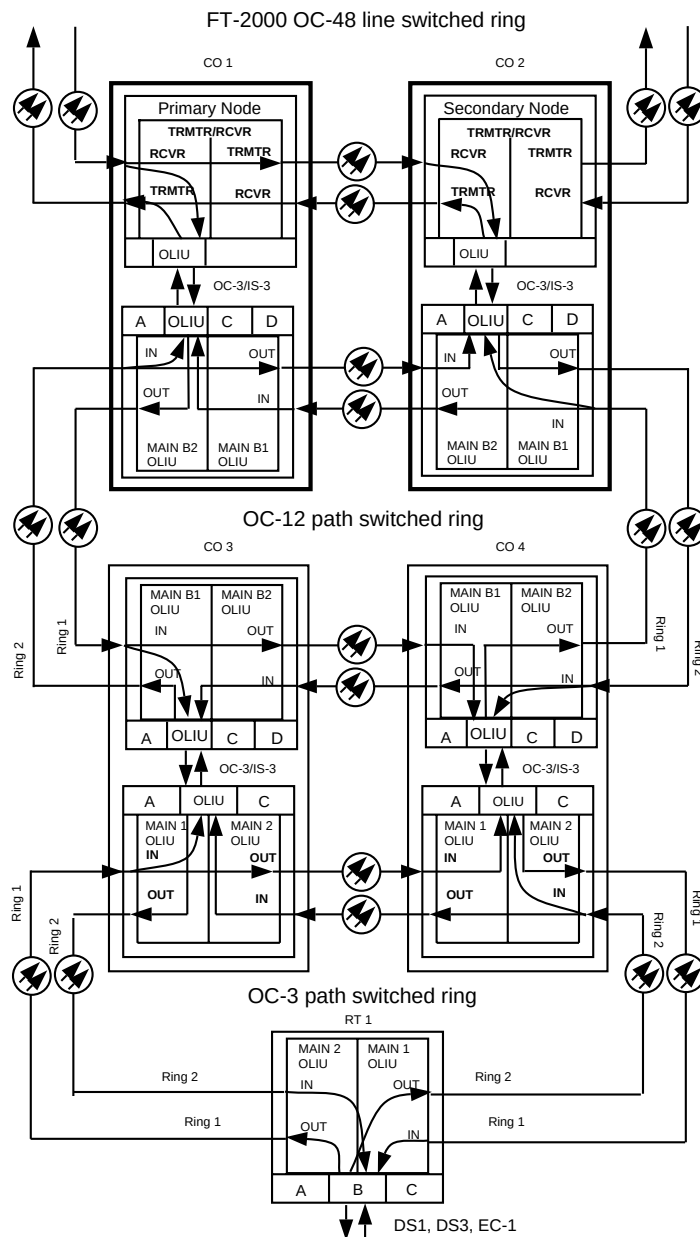

Figure 1. Example of DDM-2000 OC-3/OC-12/FT-2000 OC-48 Dual Ring Interworking Network
9. At each DDM-2000 OC-3/OC-12 DRI node, use the **set-oc3/oc12:address:syncmsg=disabled** command to disable sync messaging between the DDM-2000 **MAIN OLIUs** connecting the adjacent DRI nodes of the DDM-2000 OC-3/OC-12 ring. For example in the top DDM-2000 OC-3 ring in Figure 1, disable kbyte between CO 2 **MAIN-1** and CO 4 **MAIN-2**.
*Ensure traffic is being carried through the FT-2000 **primary** node to prevent unnecessary service hits (for example, node B in Figure 1). (FT-2000 command **CONFIGURATION-Retrieve-Crossconnection-STS3**)*